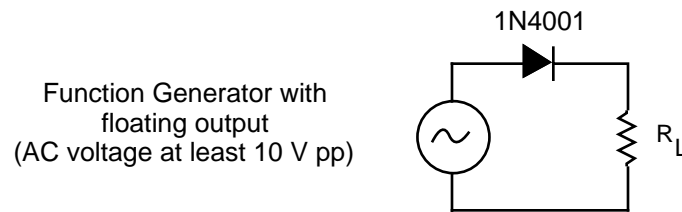

Fig 4.1
a) Construct the circuit of Fig. 4.1. Display the I-V characteristic of the diode on the oscilloscope. Use dc coupling and set zero volts at the centre of the screen. Explain the I-V curve.
Substitute a Zener diode (1N4733) for the ordinary diode in Fig. 4.1. Display the I-V characteristic of the Zener diode and explain.